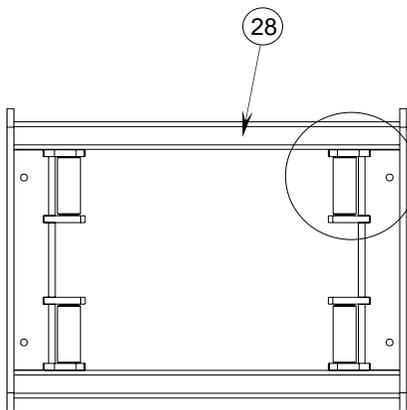

Fig. 19
9. Install outer tubular handle (35) over solid inner handle (17) and pin together with cotter pin (34). Bend cotter pin to hold in place. Check that latch bolt (19) is snug but latch (18) will move with reasonable hand effort. Check to see that all snap rings (20) are in place.
10. Lubricate base assembly per Fig. 19 - 20 with engine oil or spray lube.
11. Place head (22) & rocker (21) assy. Into base assembly (28) and secure with stop rods (23) and spring cotter pins (24).
1. Lubricate skid plate surface of the hitch (see figure on cover of Manual) with automotive type chassis grease or use a plastic lube plate to provide a lubricated surface. Plastic lube plates (Reese No. 74295) can be used to avoid messy grease. The plastic lube plate must not exceed 3/16 of an inch in thickness to ensure hitch will operate properly. Lube plates must be 10 inches in diameter or larger to properly distribute king pin weight. Use engine oil or spray lube to lubricate pivot points of moving parts within the hitch. (See Fig. 19 - 22)
3. Lubricate with engine oil or spray lube at locations shown in the following diagrams (Fig. 19 through 22).